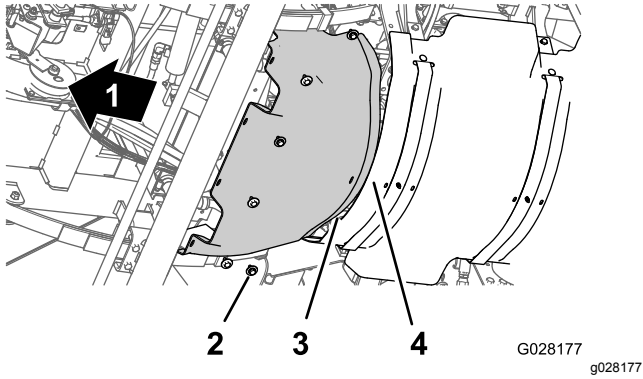

Figure 58
1. Align the rear flange of the forward heat shield over the forward flange of the rear heat shield (Figure 58).
2. Align the holes in the forward heat shield with the threaded holes in the chassis (Figure 58).
3. Assemble the forward heat shield to the machine with the 6 hex-head bolts and 6 washers (Figure 58) that you removed in step 3 of Removing the Forward Heat Shield (page 49).